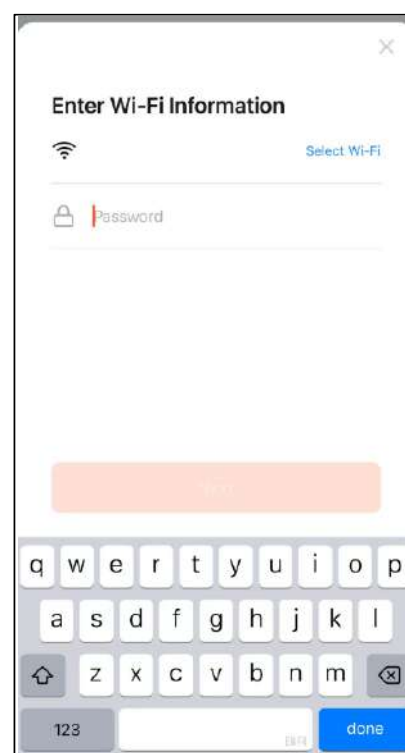

FIG.9
4. Set your Wi-Fi account and password (FIG.9). Please make sure the Wi-Fi account and password you set are correct and Wi-Fi signal is good.